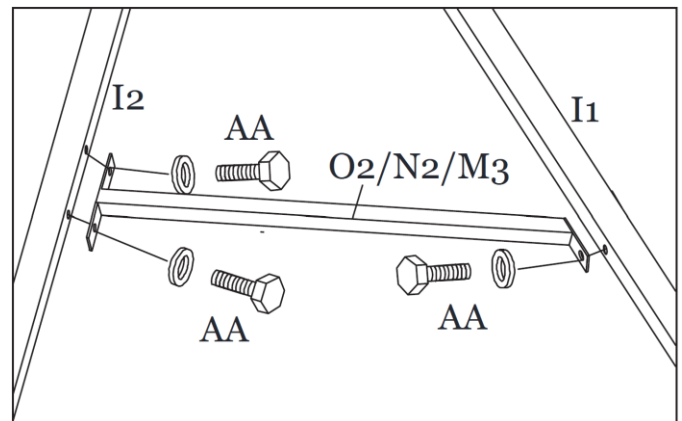

Figure 16-3
Step 16C: Attach Support Bars (O2, N2 and M3) to Main Roof Vertical Center Support (I2) and Main Roof Corner Support (I1) using Bolts/Washers (AA). **Tighten all Bolts.** See Figure 16-3 and 16-4.